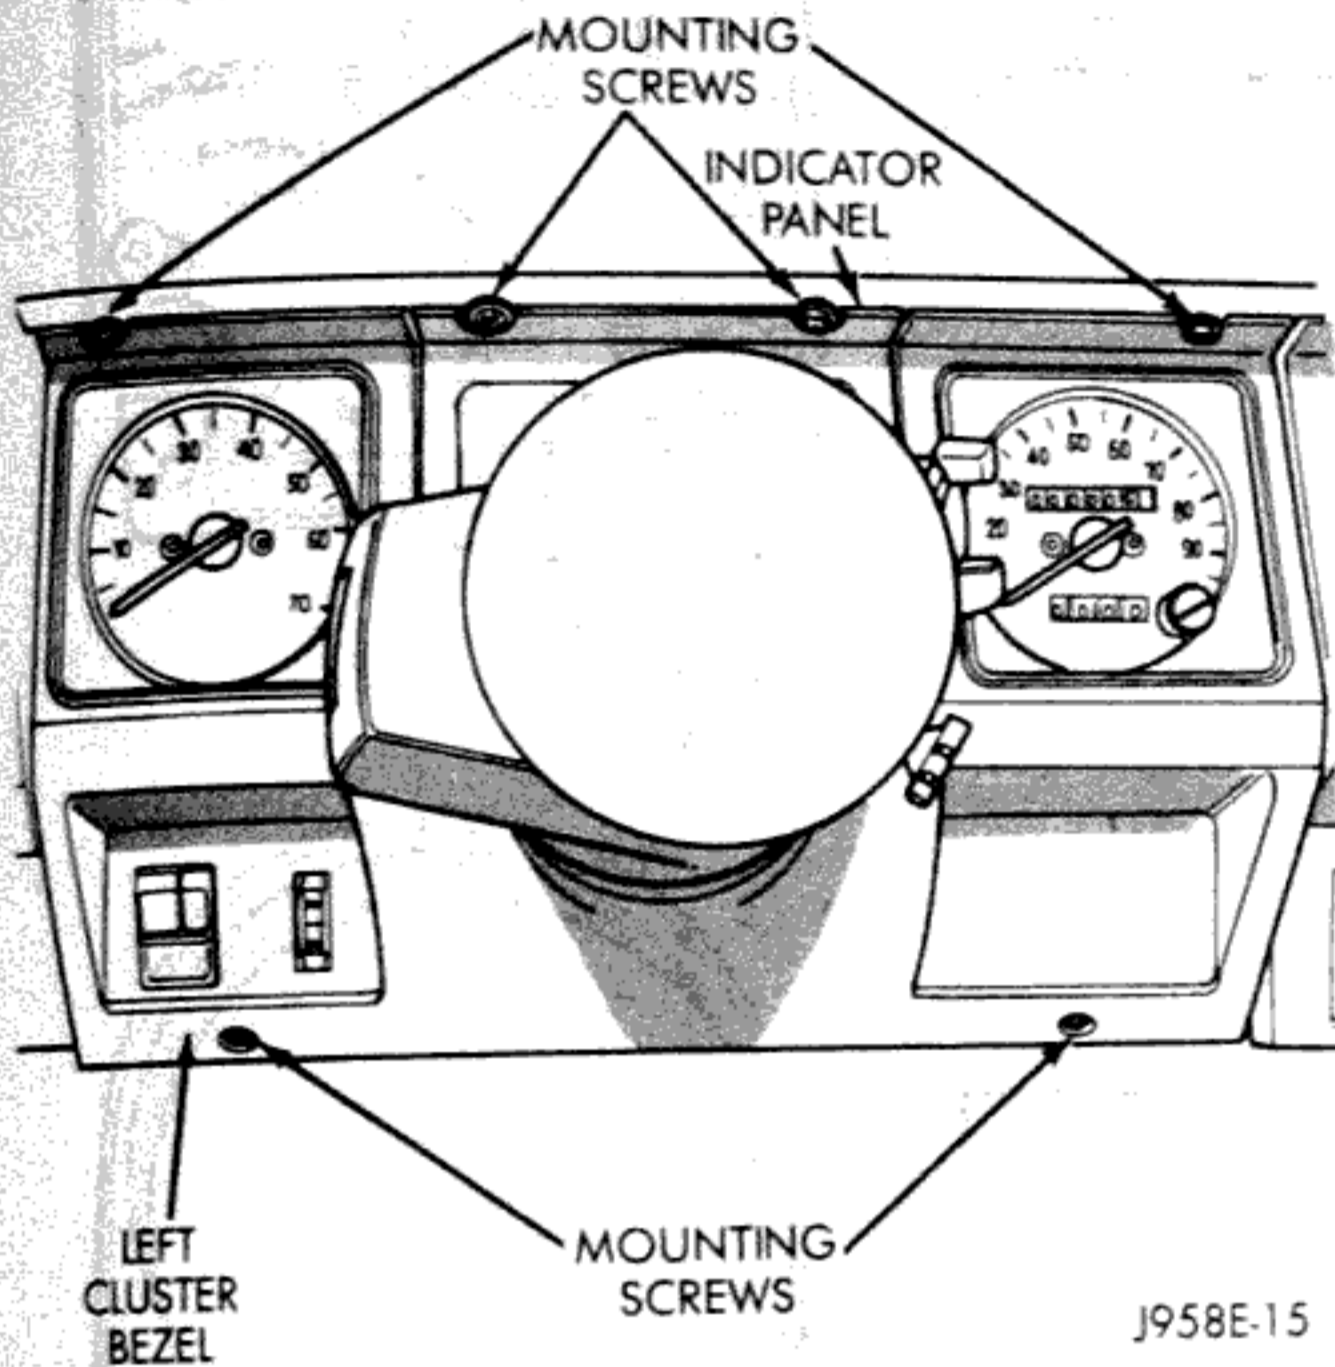

Fig. 8 Left Cluster Bezel Remove/Install
- (1) Disconnect battery negative cable.
- (2) Remove 6 screws from left instrument cluster bezel (Fig. 8).